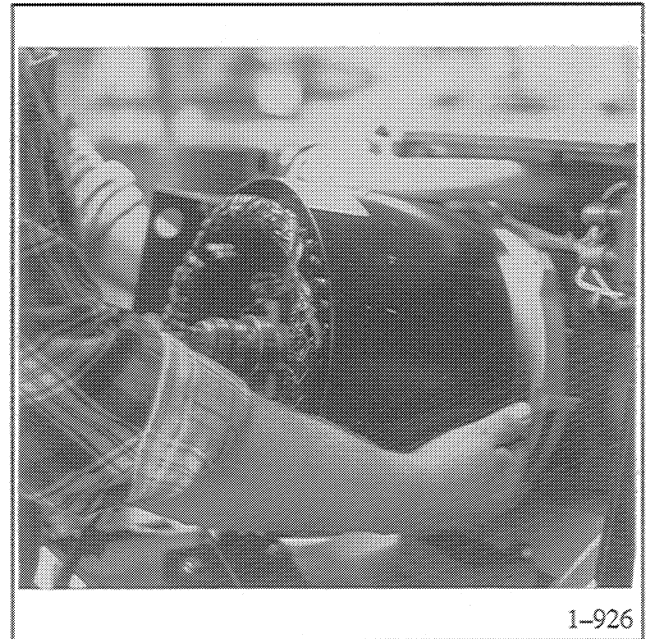

Figure 8-24. Removing Stator Assembly
29. Remove stator assembly by sliding off adapter lip. Use a screwdriver between stator assembly shell edge and generator adapter to loosen stator, if necessary. Be careful not to damage mating surfaces. See Figure 8-24.